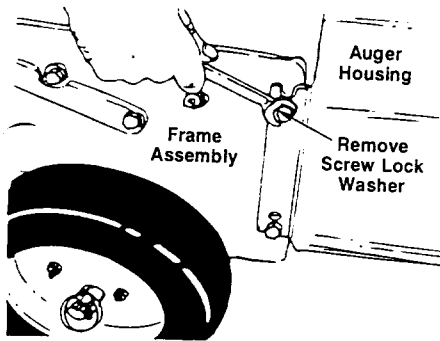

Figure 30
- Remove the top screws and lockwashers which attach the auger housing assembly to the frame assembly. A 9/16" wrench is required. See figure 30.